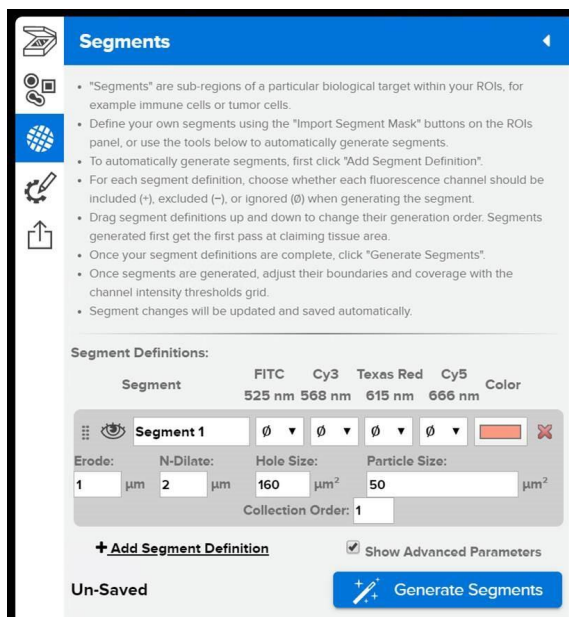

Figure 30: Scan Workspace Segmentation menu
1. Select **+Add Segment Definition** one time to establish a single definition rule. One gray Segment Definition box will appear (see Figure 30).